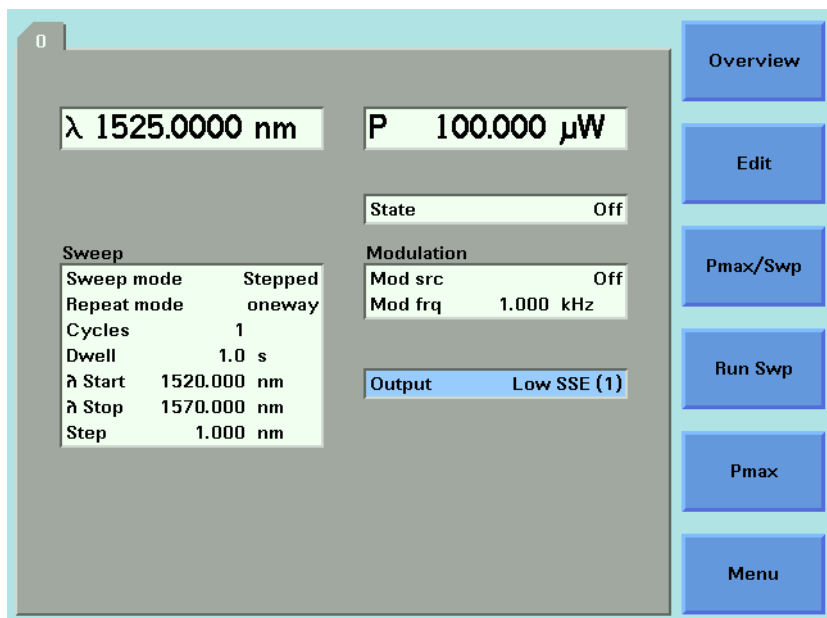

Figure 64 Setting Low SSE parameter
- <Low SSE (1)>, a lower power optical output with low Source Spontaneous Emission (SSE), for example, for use in passive component test, you see a screen similar to Figure 64 ,
If you enable the laser output for a module with two optical outputs by pressing the *Active* hardkey on the module's front panel, you automatically choose the optical output for that module. For example, if you press the *Active* hardkey beside Output 1, the Low SSE optical output, you choose *<Low SSE>* as the optical output, the LED beside the Output 1 lights constantly, and you see the screen in Figure 64 .